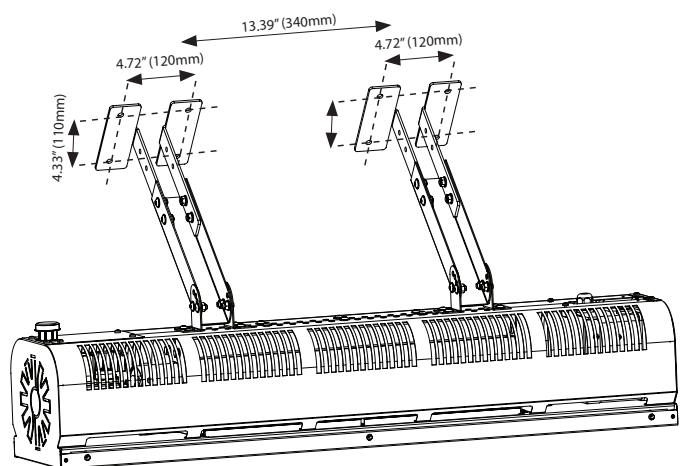

FIGURE 8
2. Position the heater as shown in Figure 8 and Figure 9 and slide the heater mounting clip over the bracket and install the bolt through the clip and bracket.